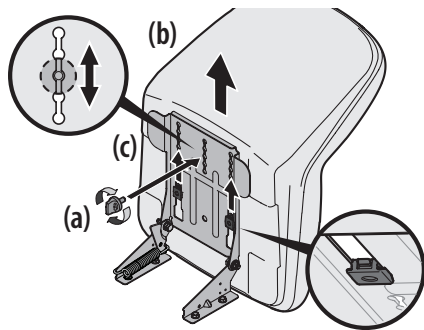

Figure 4
4. Slide the seat (b) rearward in the seat pivot bracket (c), lining up one of the slots in the seat pivot bracket (c) with the hole in the center rear of the seat (b) base. See Figure 4.
NOTE: Be certain the two seat tabs engage the seat pivot bracket as shown in the bottom right inset of Figure 4.